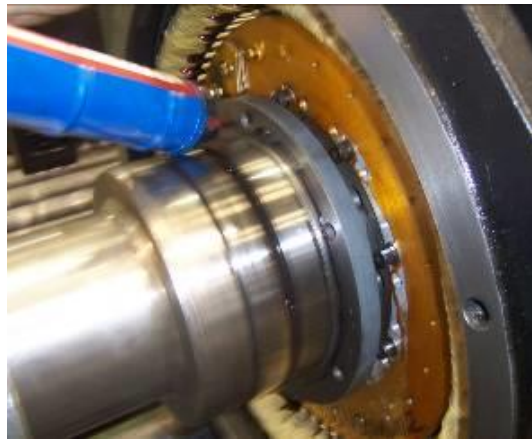

Figure 132: Apply sealant
3. Coat sealant (SILICONE FLANGE SEALANT 1598, TONSAN or equivalent) on the inner cover face. See Figure 132.